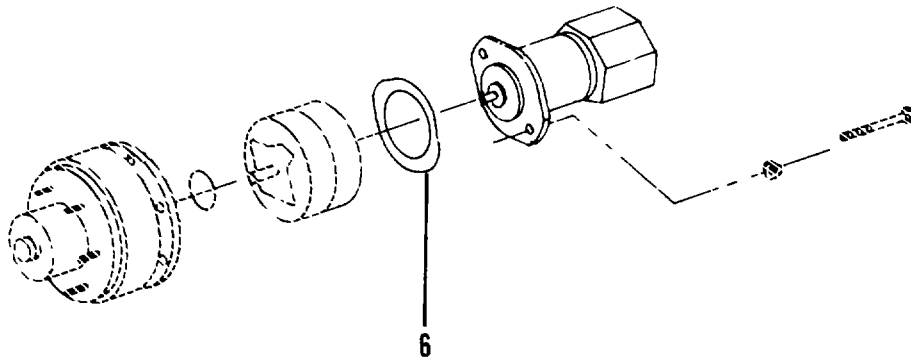

Figure 4-10.2. Hydraulic Motor Assembly.
- (g) Place geroler assembly (12) into position being careful not to disturb the rotor or rollers. Align the splines with drive shaft (14).
- (h) Install seal (9) and preformed packing (11) in wear plate (7) and position plate on geroler assembly.
- (i) Install drive shaft (8) through wear plate with the short splined end down and align splines with geroler assembly.
- (j) Install dust seal (5) in bearing housing (2).
- (k) Place preformed packing (4) in position on bearing assembly (2).
- (l) Install shaft seal (6) on bearing assembly (3) and install bearing assembly in housing.
- (m) Install bearing housing (2) with bearing assembly (3) on wear plate (7) aligning internal splines of bearing assembly with splines of drive shaft (8).
- (n) Install four capscrews (1) and tighten evenly by alternating between them.
- (p) Place new gasket (6, Figure 4-10.2) in position on face of motor assembly.